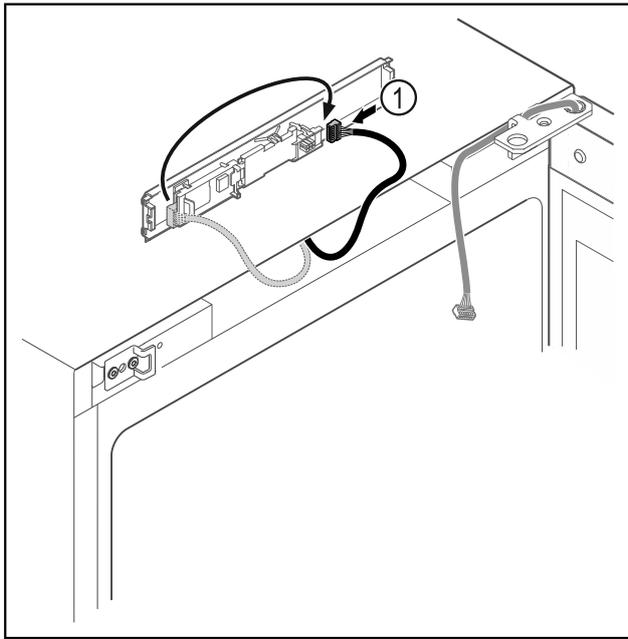

Fig. 7
- ▶ Connect the plug Fig. 7 (1) to the circuit board.